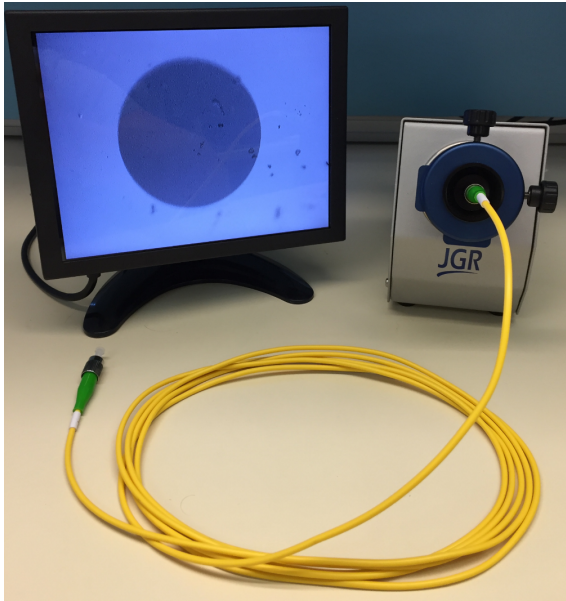
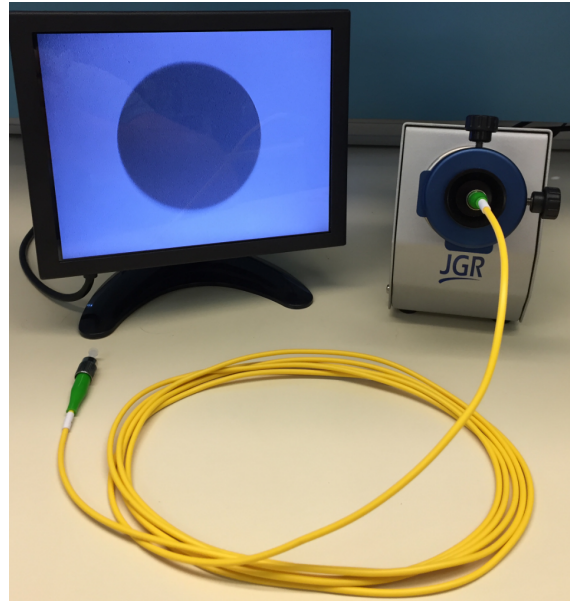

Figure 44: Dirty connector end-face inspection using Santec's EFI-100
Figure 45: Clean connector end-face inspection using Santec's EFI-100
1. Inspect all connectors before each mating and if needed, clean with a lint-free wipe and/or IPA. Figure 44 shows a dirty connector requiring cleaning. Figure 45 shows a clean connector ready to be mated.